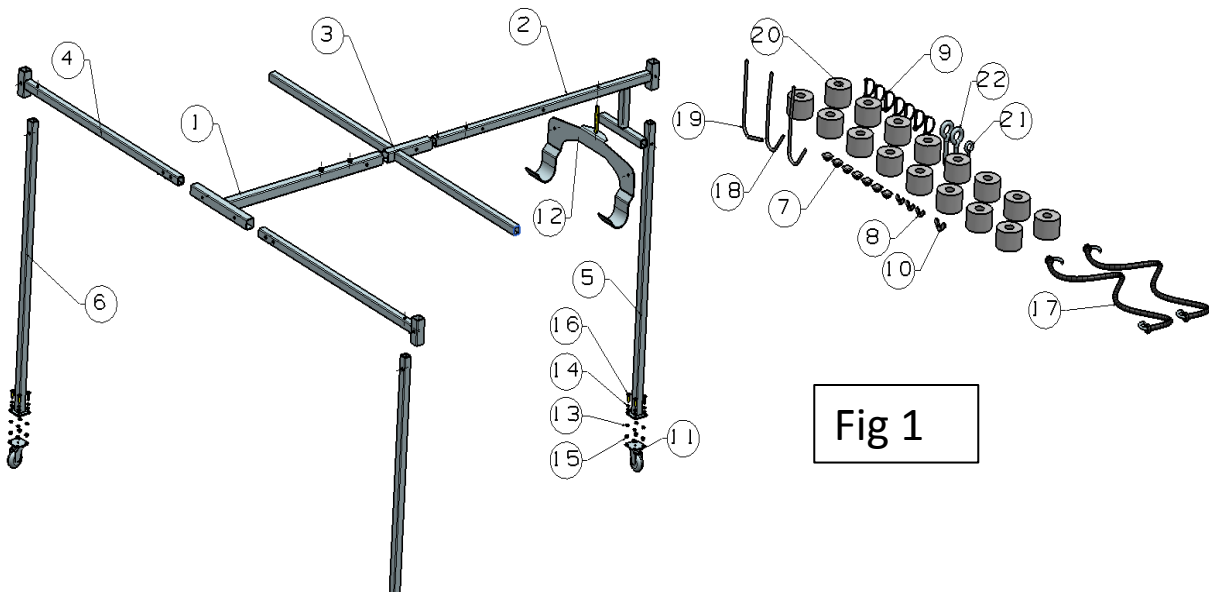

Fig 1
Step 1: Unpack and lay out all components according to the exploded view. Fig 1+2